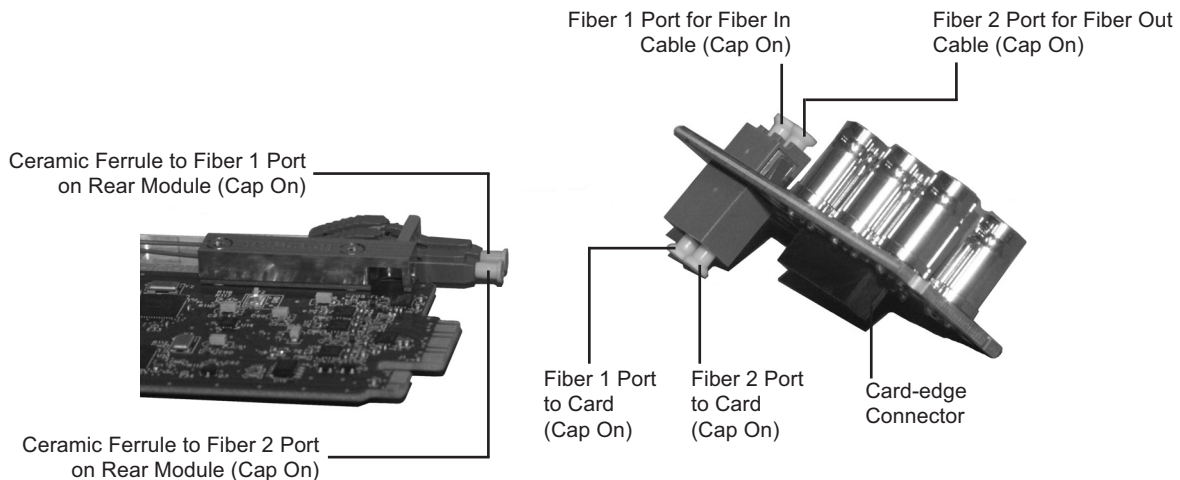
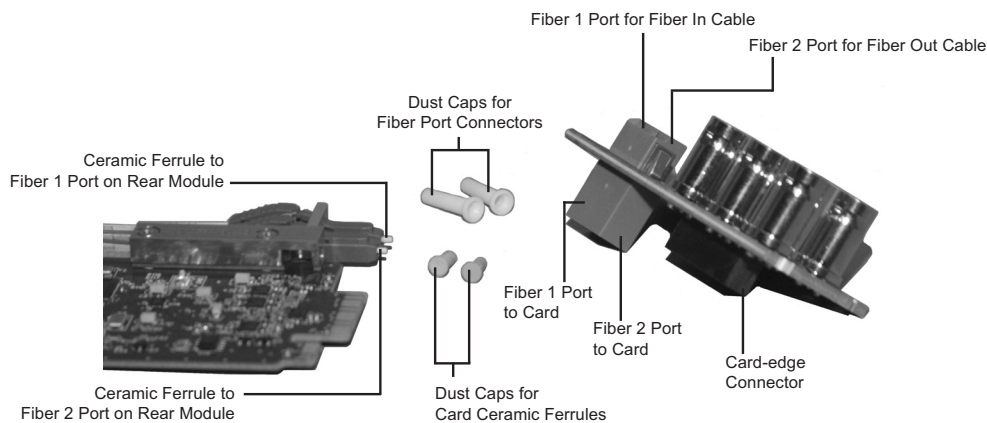

Figure 2.1 Card Connectors with Dust Caps Installed — 8320AR-044 Rear Module Shown
Figure 2.2 Card Connectors with Dust Caps Removed — 8320AR-044 Rear Module Shown
- Connectors must always be inserted into a device or have a dust cap on. Refer to **Figure 2.1** for dust cap locations.
3. Remove the dust caps from the Fiber ports on the Rear Module that faces the interior of the frame. Refer to **Figure 2.1** and **Figure 2.2** for dust cap locations.